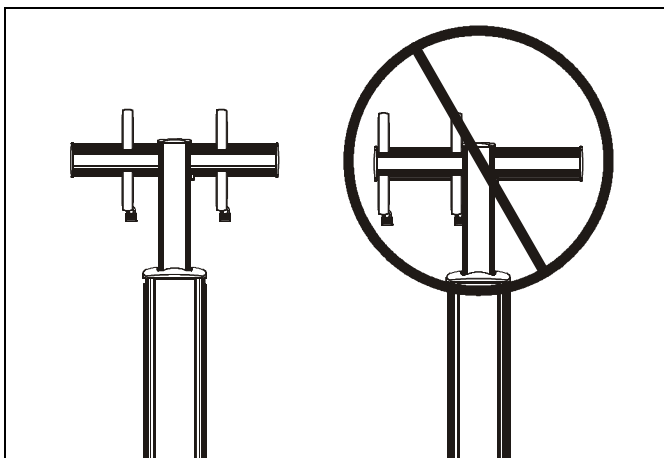

Figure 7
**IMPORTANT ! :** In order to ensure an even mount, install uprights to be centered over column assembly. Do NOT install both uprights to the same side of column assembly! (See Figure 7)